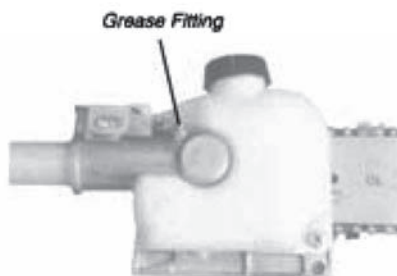

Figure 37
- **Lubricate the gearcase.** To perform this operation, first remove the gearcase from the upper outer tube as follows (Figure 37):